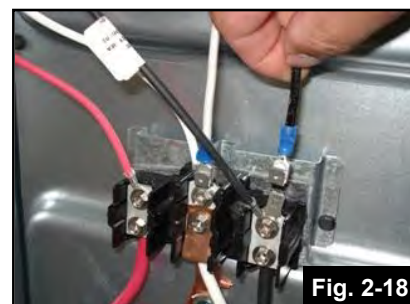

Fig. 2-18
**NOTE:** For stoves without a fuse or where the fuse is not accessible, the BLACK wire from the Safe-T-element® Controller may be connected directly to the BLACK wire from the power cord at the terminal block. If necessary use ring terminal adapter provided. (Fig.2-18). Remove the nut securing the internal black wire using a 3/8" Nut Driver. Place the adapter on the terminal block & replace the nut.